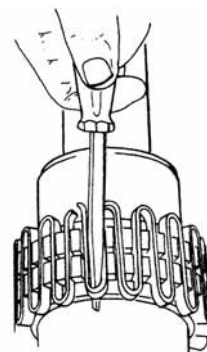

Figure 7. Coupling Disassembly
- (c) If it should be necessary to disassemble the coupling, the following procedure should be followed. Remove the cover halves from the coupling. Use a screwdriver that will fit into the open loop ends of the grid. Begin at the open end of grid and pry the grid radially in even, gradual stages, proceeding alternately from side to side. See Figure 7.